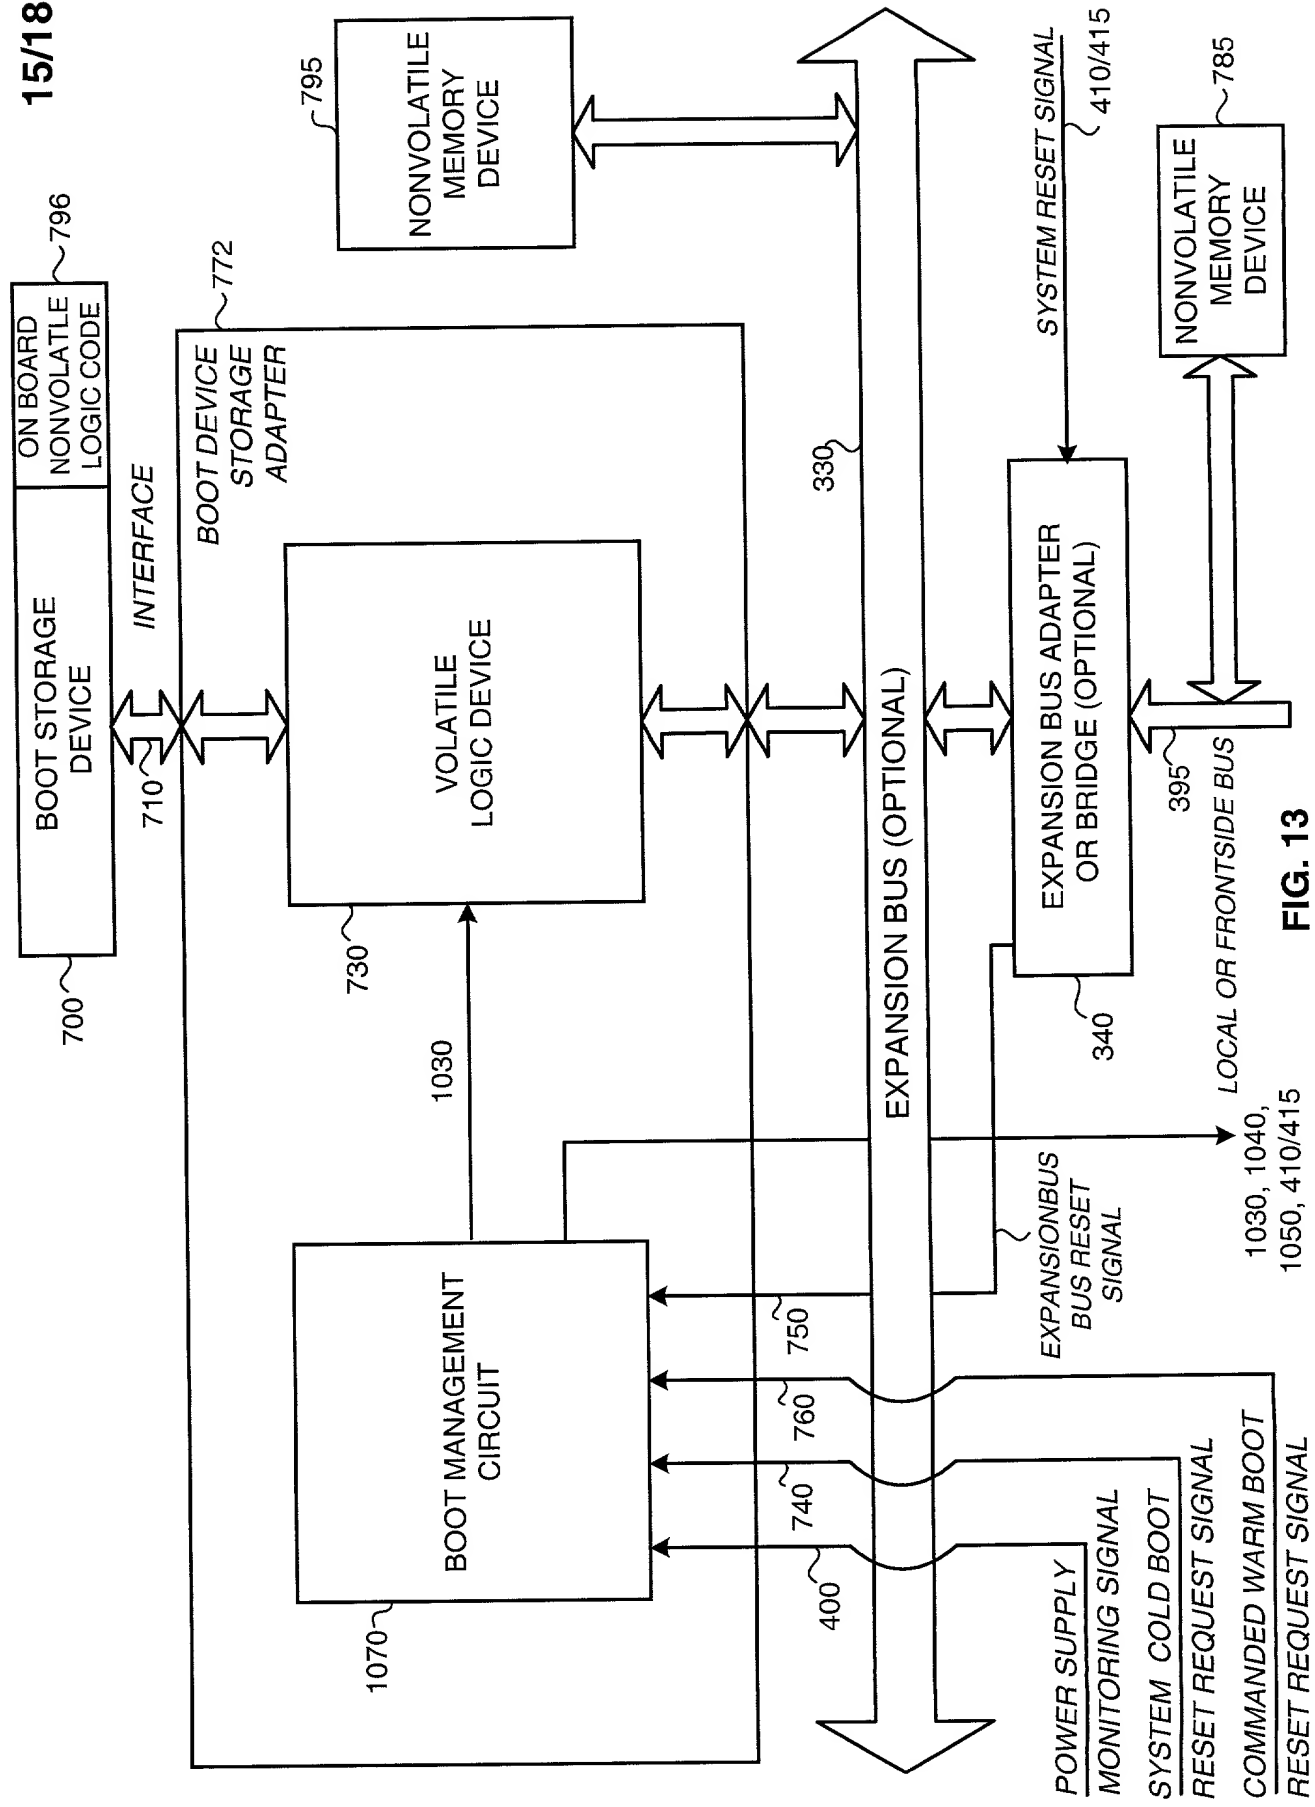

FIG. 13
FIG. 13 is a block diagram of a system architecture showing a boot management circuit (1070) connected to a boot storage device (700) and a volatile logic device (730). The boot storage device (700) is connected to an on-board non-volatile logic code (796) via an interface (710). The volatile logic device (730) is connected to a non-volatile memory device (795) via a boot device storage adapter (772). The system also includes an expansion bus (330) with an optional expansion bus adapter or bridge (340). The expansion bus (330) is connected to a local or frontside bus (395), which is connected to a non-volatile memory device (785). The boot management circuit (1070) is connected to the expansion bus (330) and the local or frontside bus (395). The expansion bus (330) also receives signals from a power supply monitoring signal (400), a system cold boot reset request signal (740), a commanded warm boot reset request signal (760), and an expansion bus reset signal (750). The expansion bus (330) outputs a system reset signal (410/415) to the non-volatile memory device (785).